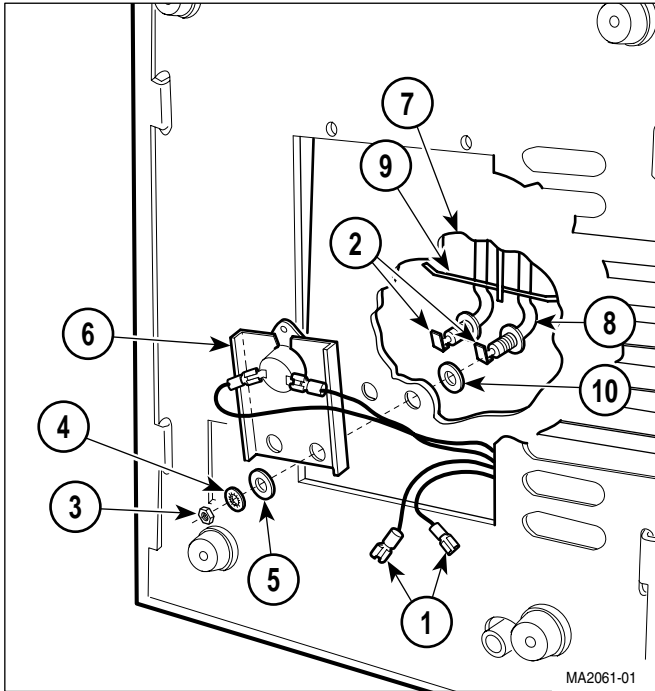

Figure 4-20. Heating Element and Gasket Removal / Installation
- (1) Drain water from condensing tank.
- (2) Remove base inspection cover (Refer to para 4.6).
- (3) Tag and disconnect two wires (1, Figure 4-20) from terminals (2).
- (4) Remove two nuts (3), lock washers (4), and brass washers (5).